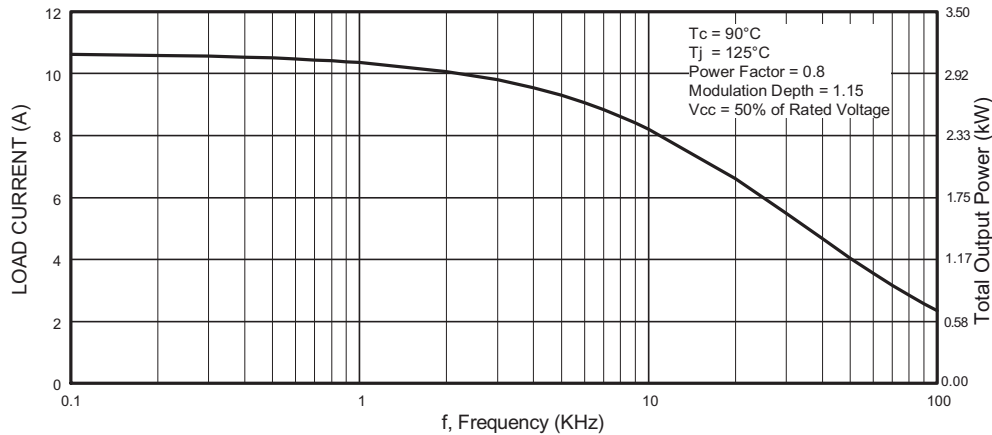

Fig. 1 - Typical Load Current vs. Frequency
Modulation depth (see fig. 1)	115 %
- Short circuit rated ultrafast: Optimized for high speed over 5.0 kHz (see fig. 1 for current vs. frequency curve), and short circuit rated to 10  $\mu\text{s}$  at 125  $^\circ\text{C}$ ,  $V_{GE} = 15\text{ V}$